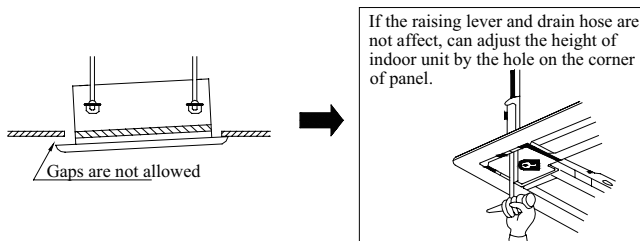

Fig.15
- ② . If gap still exist between ceiling and decoration panel after tightening the screws, readjust the height of the indoor unit. (As shown in fig.15)